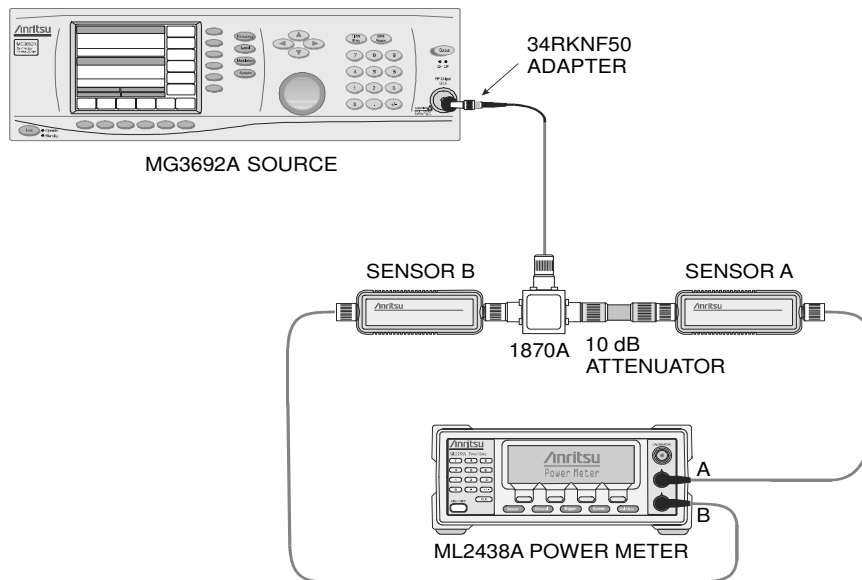

Figure 2. Level Accuracy Across Frequency Test Pre-test Setup
5. Install the 10 dB Fixed Attenuator to the other power splitter output and then connect sensor A to the end of the Attenuator (Refer to Figure 2).
5. Install the 10 dB Fixed Attenuator to the other power splitter output and then connect sensor A to the end of the attenuator (refer to Figure 2).